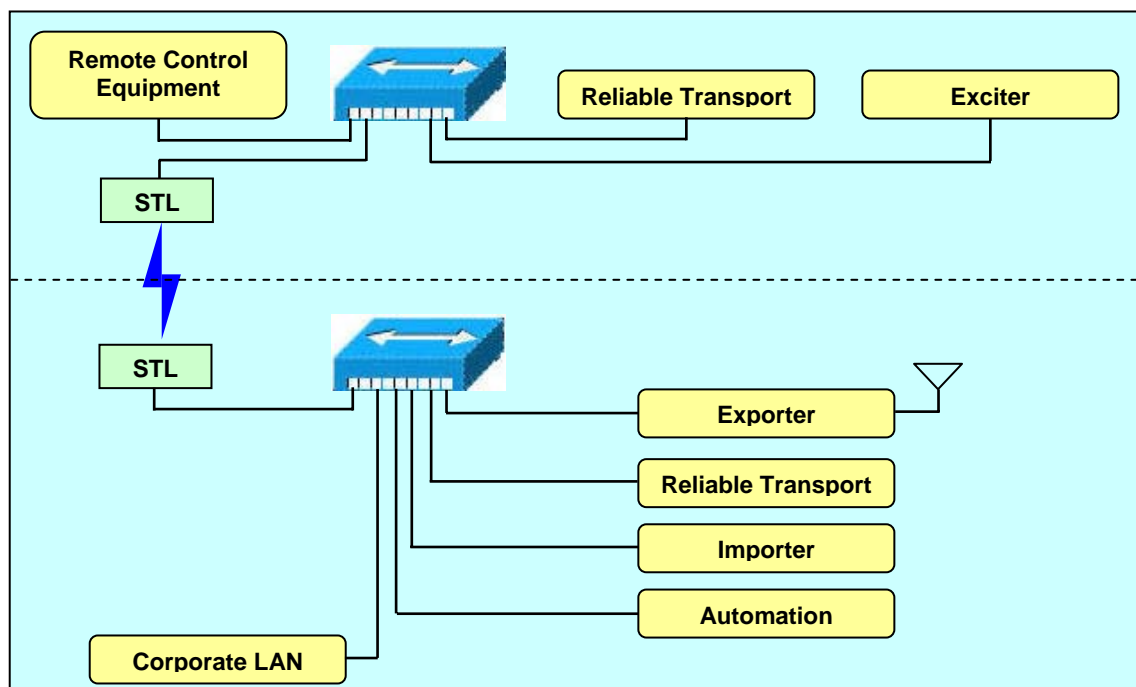
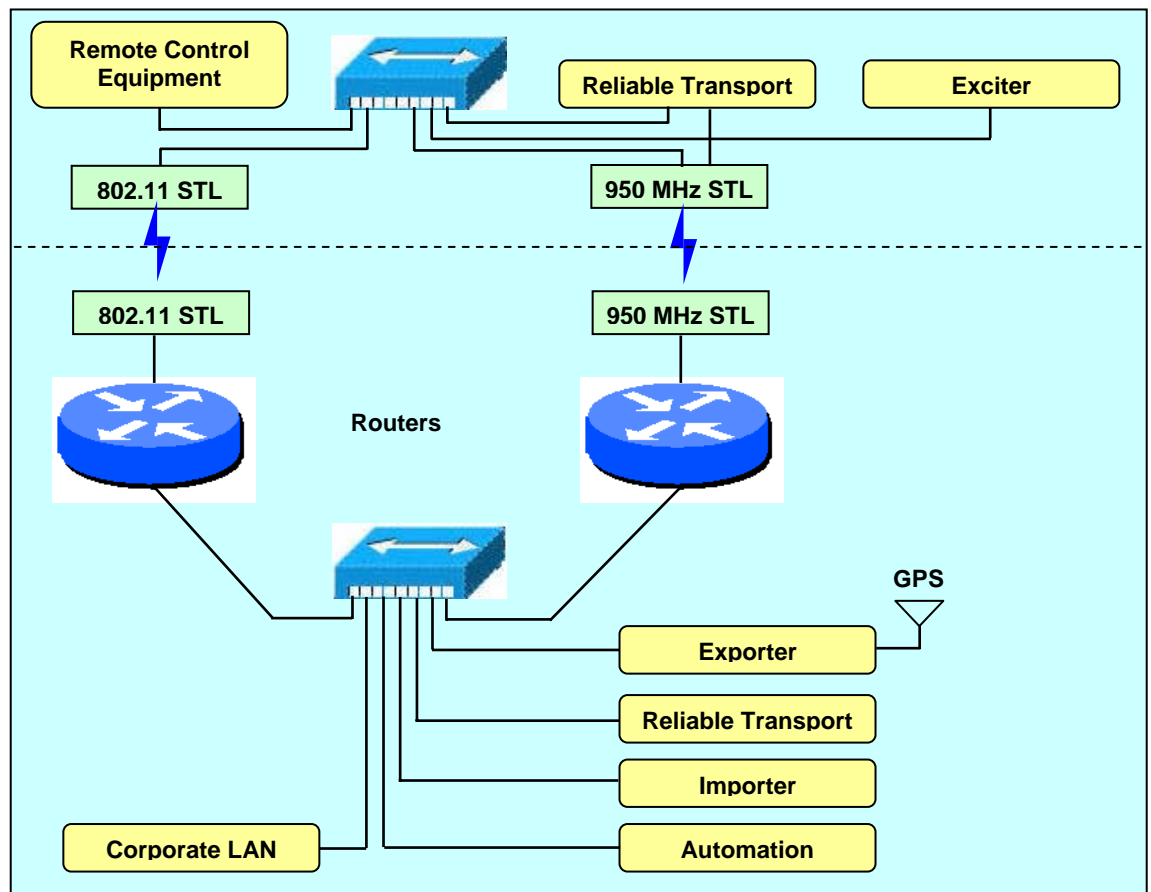

Figure 1-2: LAN Configuration using a Bidirectional STL
Figure 1-3: LAN Configuration using two STLs
The possible LAN configurations between a studio and transmitter site are too numerous to consider so two 'typical' scenarios will be used as examples in this manual. Figures 1-2 and 1-3 assume that there is an STL being used to bridge the studio LAN to the transmitter site. Figure 1-2 is the simplest configuration showing a bidirectional STL. Figure 1-3 shows a more complicated bridge where LAN traffic is split across two STLs. In all cases two reliable HD transport units are required - one to encapsulate E2X packets from the exporter at the studio and the other to restore the E2X protocol for the exciter at the transmitter site.
The configuration shown in Figure 1-3 is specific in that it considers the use of a licensed 950 MHz digital STL. This type of STL can only carry LAN data one way but they tend to be very reliable. Data recovery requires a reverse path for requesting resending of missing data so a simple 802.11 style STL is added for bidirectional LAN data. As mentioned before, 802.11 STLs can be very lossy and may be unsuitable for carrying the critical E2X (or encapsulated E2X) data between the exporter and exciter, but they are well suited for occasional data resend requests. Also, adding an 802.11 STL can provide access to other LAN enabled equipment at the transmitter site.
In order to make the configuration in Figure 1-3 function, it is necessary to put the transmitter site equipment on a separate subnet. This requires routers at the studio. The studio side reliable HD transport unit gets its data to the transmitter site reliable HD transport unit by setting its gateway address to the router in front of the 950 MHz STL. The transmitter site reliable HD transport unit (and any other networked equipment at the transmitter site) gets its connectivity back to the studio by setting its gateway address to the router in front of the 802.11 STL.
*The following instructions assume a simple network configuration (see Figure 1-2). For other configurations, please consult with your network administrator.*